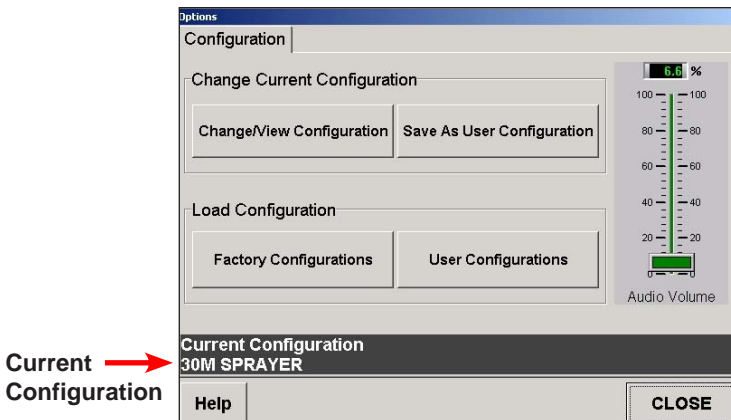

Figure 9-3. Current Configuration Displayed
The **Configuration** window will be displayed and the current configuration will be displayed (Figure 9-3 on page 9-2)
2. Check that the Sprayer that needs to be changed is loaded (it will be listed in the **Current Configuration** window (Figure 9-3 on page 9-2)